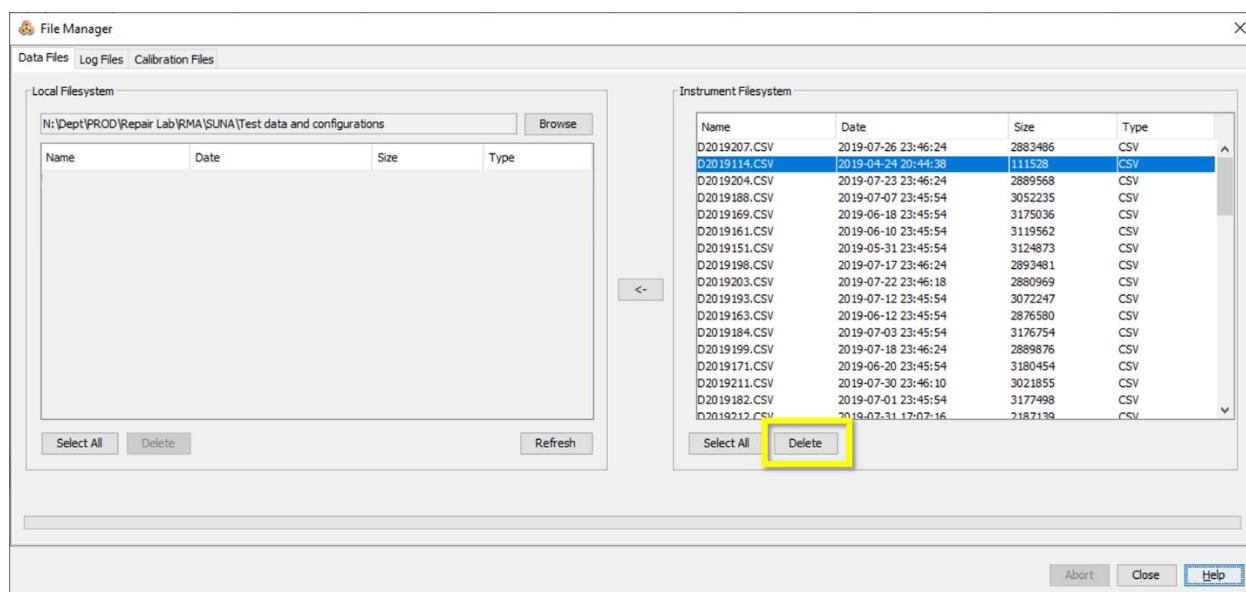

Figure 6. Select the .CSV Data File with your Cursor and then Select Delete
3. In the **File Manager** pop-up window, delete the files that are from two quarters ago in the **Instrument Filesystem** section/box. Select the .CSV data file with your cursor, and then select **Delete** (Figure 6). Select and delete 10 files at a time and repeat until all files are deleted. This prevents the SUNA from acting up due to its small microprocessor.